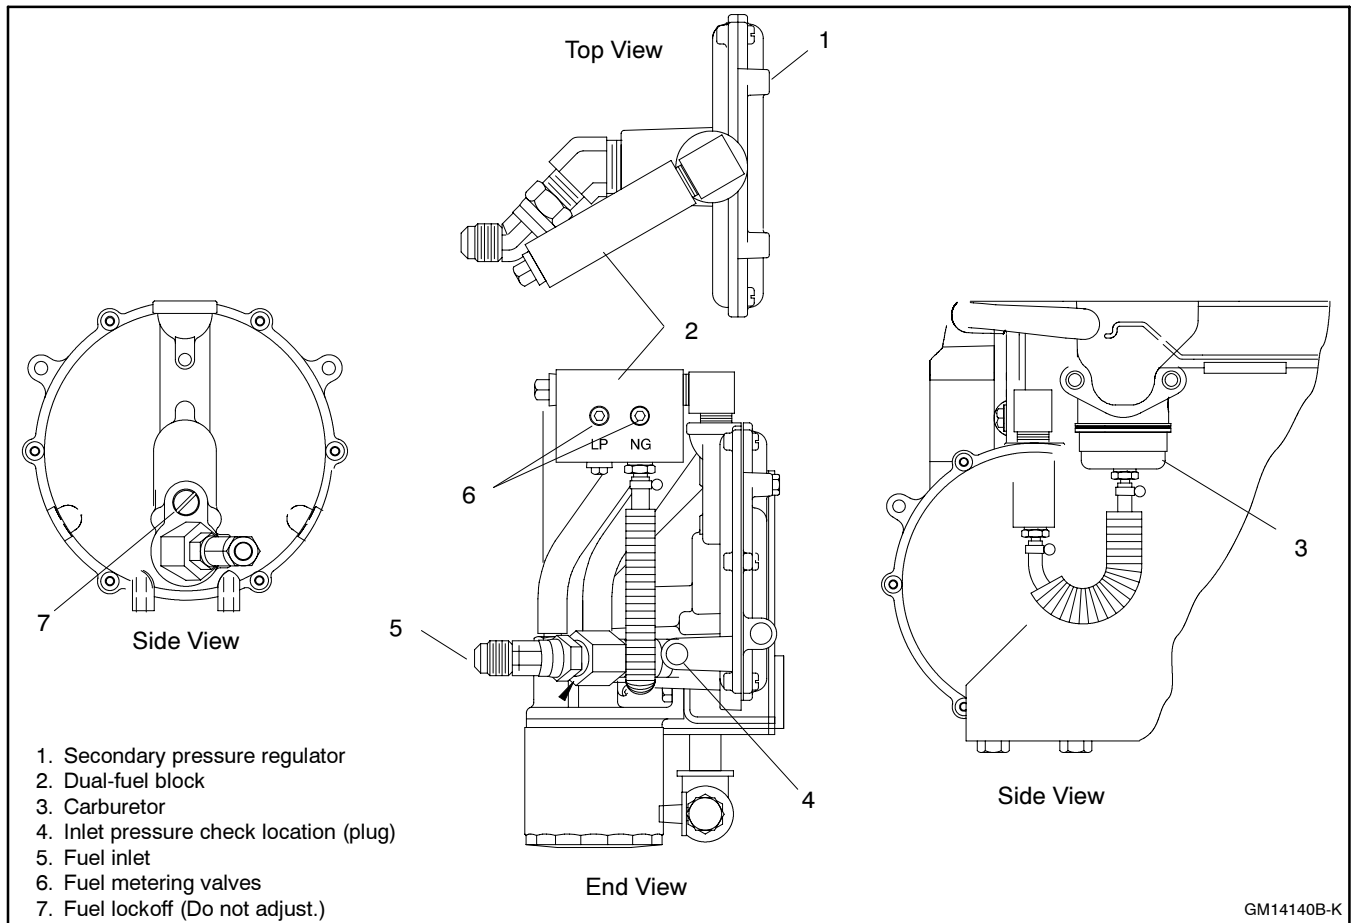

Figure 5-20 Fuel System
Do not try to adjust the fuel pressure, fuel mixture, or engine speed using the fuel lock-off. See Figure 5-20 for the location of the fuel lockoff. The fuel lock-off prevents fuel flow when the engine is not operating.
Use a gauge or manometer to check the fuel pressure at the secondary regulator inlet. See Figure 5-20. Measure the fuel pressure with the generator set running at full load. The fuel pressure should be 178–280 mm (7–11 in. water column) or 1.7–2.7 kPa (4–6 oz./in.²). Contact the fuel supplier if the inlet pressure is not within the specified range.
2. If adjustment is required, remove seal on the fuel metering valve and adjust the valve to obtain an oxygen sensor reading between 0.75 VDC and 0.85 VDC. See Figure 5-20 for the fuel metering valve location.